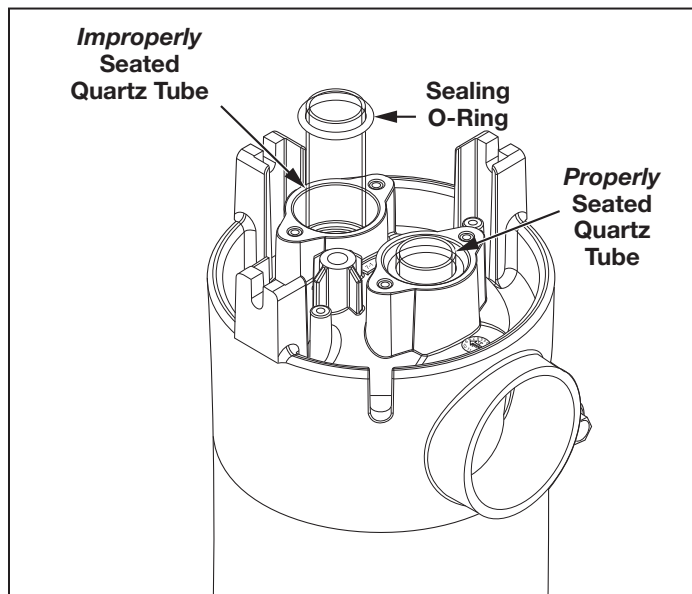

Figure 16. UV Quartz Tube Installation
1. Hold the quartz tube so it is oriented straight up and down. Insert the quartz tube into the UV reactor until it is fully seated in the bottom of the UV reactor. See Figure 16.
3. Place the lamp retainer over the quartz tube. Use the hex key included in the parts bag to attach the lamp retainer to the UV reactor, using the lamp retainer screws and washers. Torque lamp retainer screws to 15 in/lbs. Make sure the lamp retainer flanges are fully seated against the UV reactor. See Figure 16.